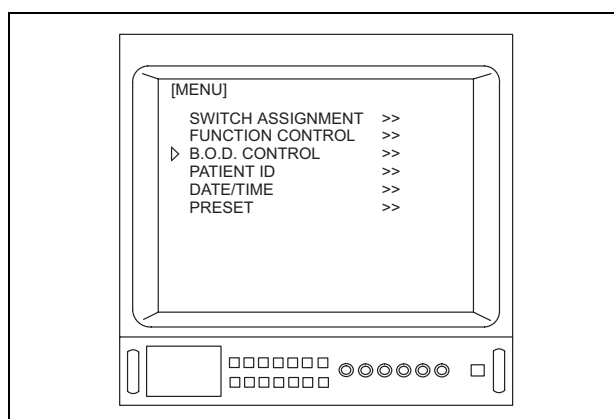

Figure 5.89
2. Depress the menu switches “” or “”, or the “” key on the keyboard to move the arrow “” to “B.O.D. CONTROL” (see Figure 5.89).
- When using a type A OTV-S7V, "B.O.D. CONTROL" (see Figure 5.89) is not displayed.
- When the OTV-S7H-1D-F08E/L08E/D-L08E is connected to the OTV-S7V, "SWITCH ASSIGNMENT" (see Figure 5.89) is not displayed.
2. Depress the menu switches "◀" or "▶", or the "↑/↓/←/→" key on the keyboard to move the arrow "▷" to "B.O.D. CONTROL" (see Figure 5.89).